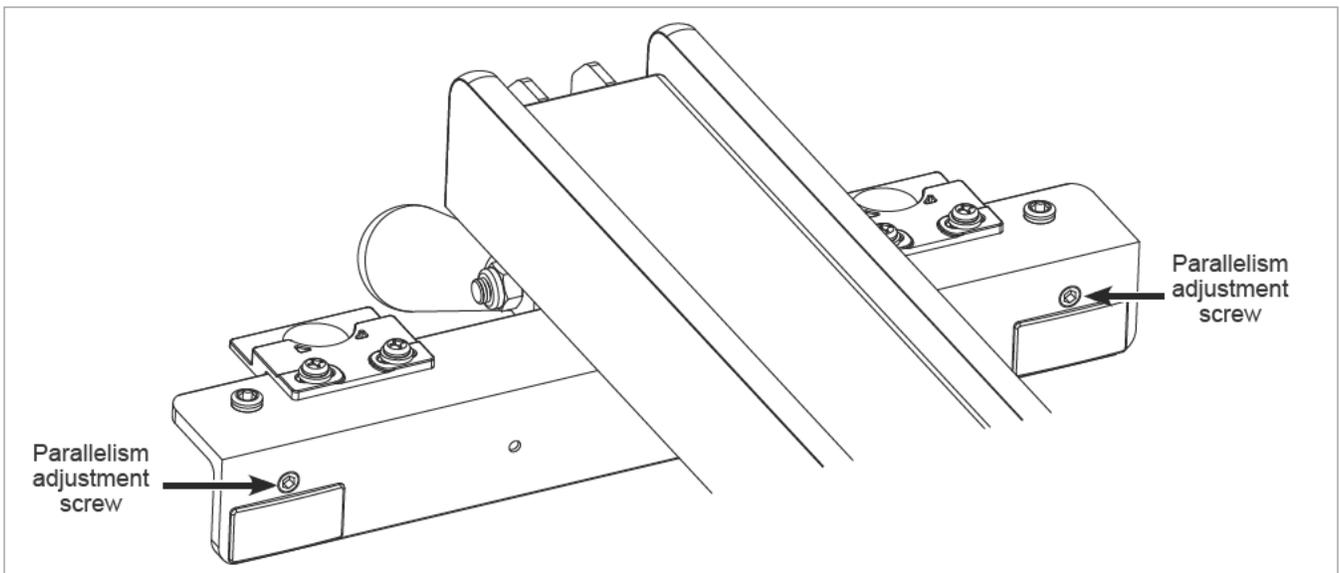

Fig. 31
20. Press down on the fence handle to clamp the fence to the front tube. If the fence does not clamp tightly enough to hold its position against a moderate amount of force, you can increase the clamping pressure by turning both parallelism adjustment screws clockwise using a 5 mm hex key. Those screws are located in the vertical portion of the fence cross-bracket (See Fig. 31). Alternatively, if too much force is required to push the fence handle down to clamp the fence to the front tube, you can reduce the clamping pressure by turning both parallelism adjustment screws counter-clockwise.
The next step is to align the face plates to be parallel to the miter slots. Begin by sliding the fence along the front tube until the left face plate is flush with the right edge of the right miter slot. Lock the fence handle and check that the face plate is flush with the miter slot edge along its whole length (See Fig. 36). You can check this either visually or by running your finger along the face plate and miter slot edge. If there is any misalignment, you can correct it by turning one of the two parallelism adjustment screws in the vertical edge of the fence cross-bracket (See Fig. 31).